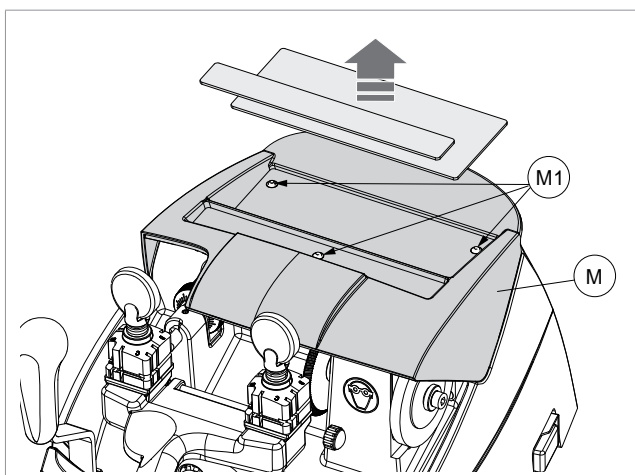
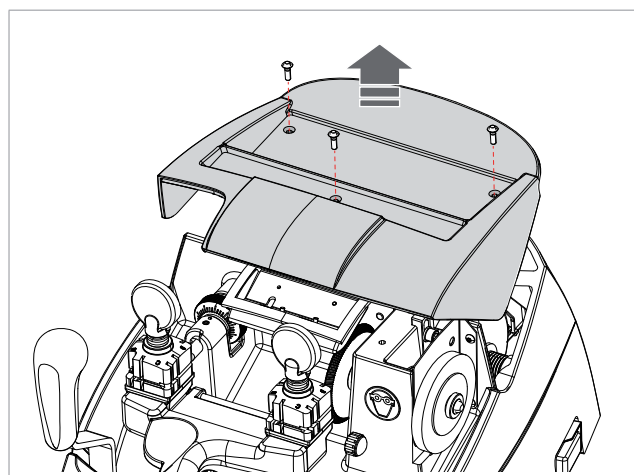

Fig. 32
Fig. 33
- 1) Remove the two pads (Fig. 32).
- 2) Loosen the 3 screws (M1) and remove the top cover (M) (Fig. 32 and Fig. 33).
- 2) Loosen the 3 screws (M1) and remove the top cover (M) (Fig. 32).